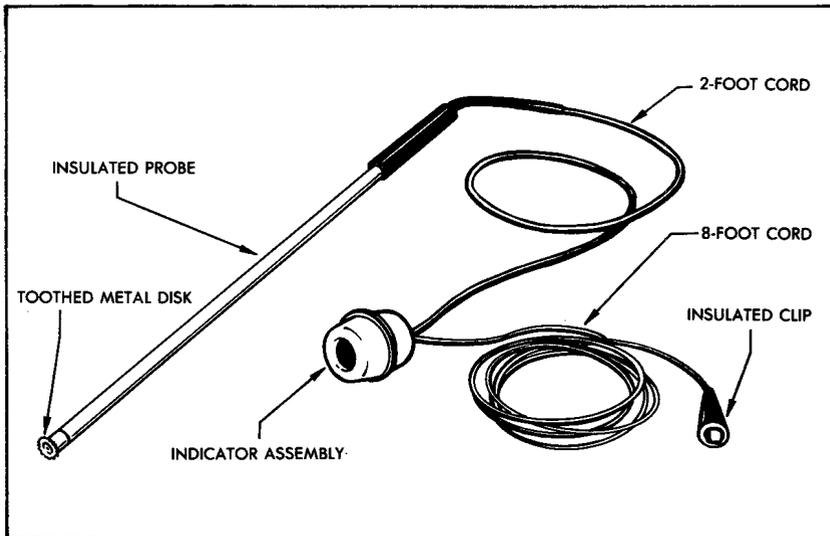

FIGURE 1. B Voltage Tester
a. Attach the insulated clip of the B Voltage Tester (Figure 1) to one of the following:
- (1) A telephone anchor rod or guy. (Do not attach to an anchor rod or guy that is bonded to the power ground wire.)